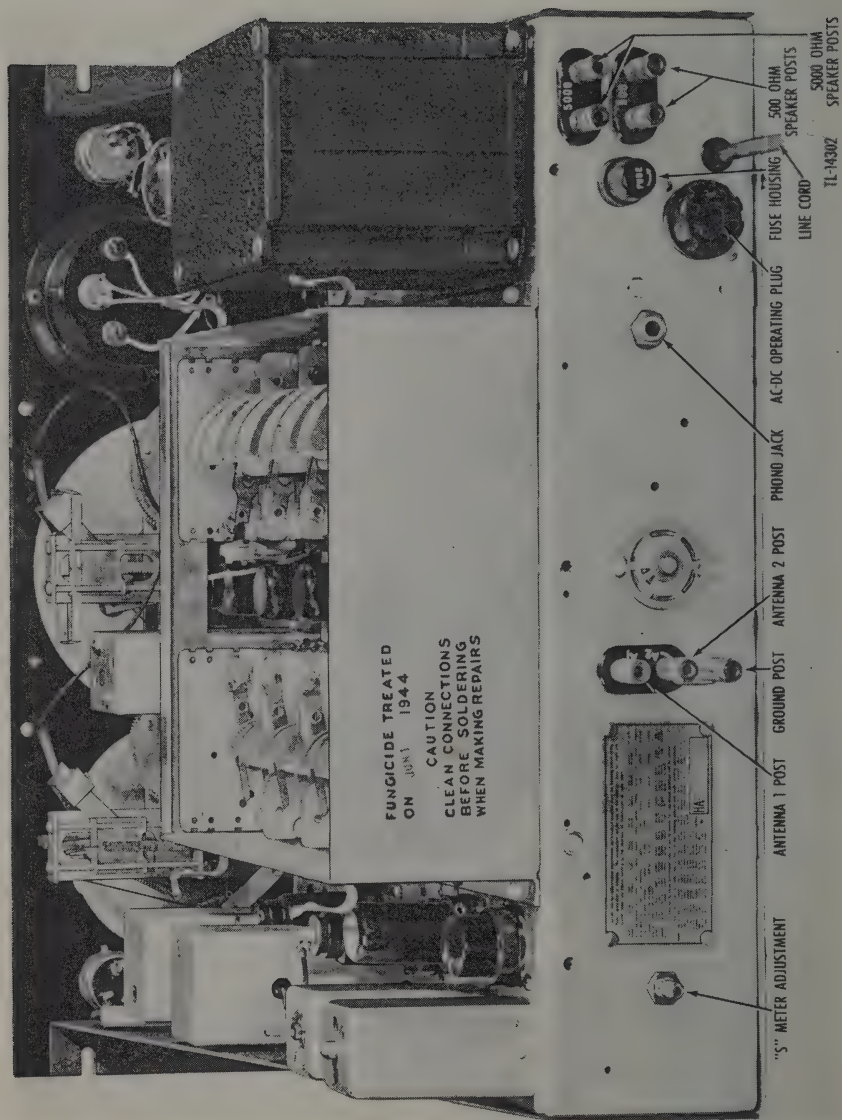

Figure 2. Radio Receiver AN/GRR-2, rear chassis apron.
a. A-c Operation. The octal shorting plug (a-c operating plug) furnished with the receiver must be inserted in the octal socket on the rear apron (fig. 2) of the receiver and the line cord connected to the line.
c. A-c Line Fuse. Check the fuse in the a-c line circuit. Remove the holder from the fuse housing on the rear apron of the chassis (fig. 2). A spare fuse is mounted on the top of the chassis near the rectifier tube.